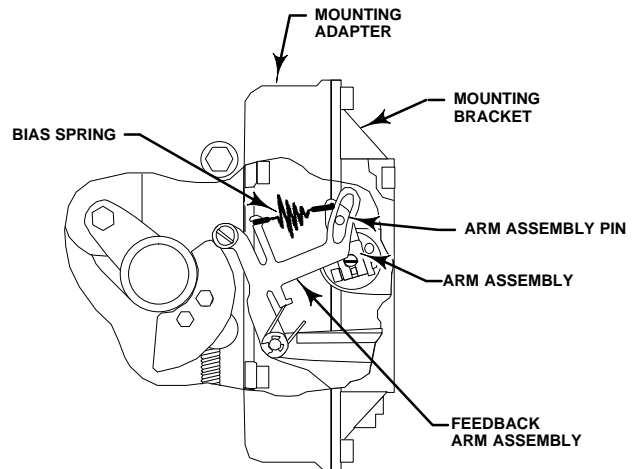

Figure 2-7. Locating Adjustment Arm Pin in Feedback Arm of a FIELDVUE DVC6020 SIS Digital Valve Controller
6. Apply anti-seize (key 64) to the pin of the adjustment arm as shown in figure 2-7.